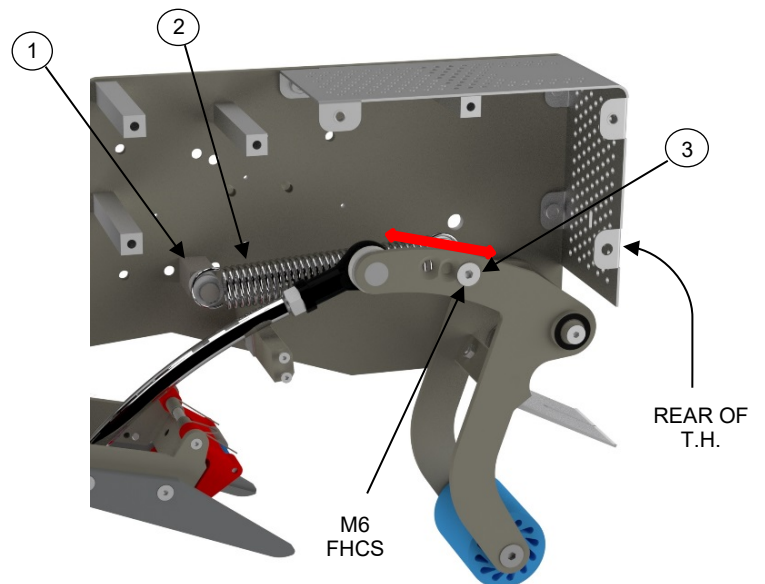

Figure 8-3
The previously listed 3 options may need to be employed in combination to get the best result. For instance, to get the 3-inch tape head in top tape head mode at 120 ft/min line speed make the following set up, refer to **Figure 8-3**. Put the M6 FHCS (**item 1**) on rear arm on the second position from pivot shaft. Put the M6 FHCS (**Item 3**) on the Cover Frame closest to the rear end position. Take the heavy stainless steel main spring UPH1091 (**item 2**) and attach it to these spring retainer points.